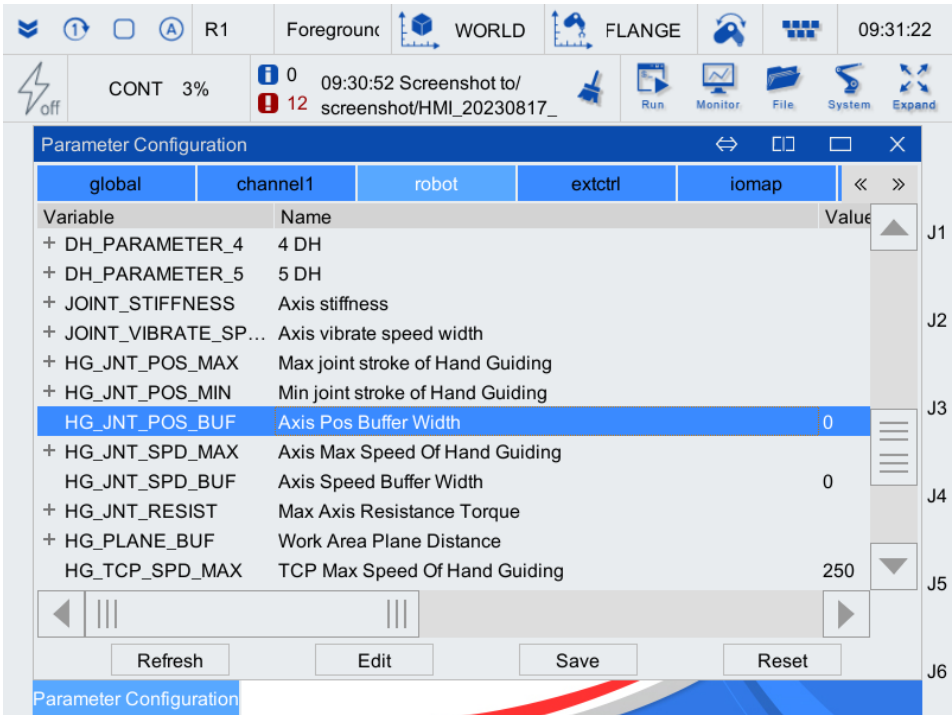

Figure 5-12 Axis position buffer width parameter setting interface
Step3. Enter the parameter configuration interface and select the [robot] tab, as shown in Figure 5-12, click to select [HG_JNT_POS_BUF] and click <Edit>.